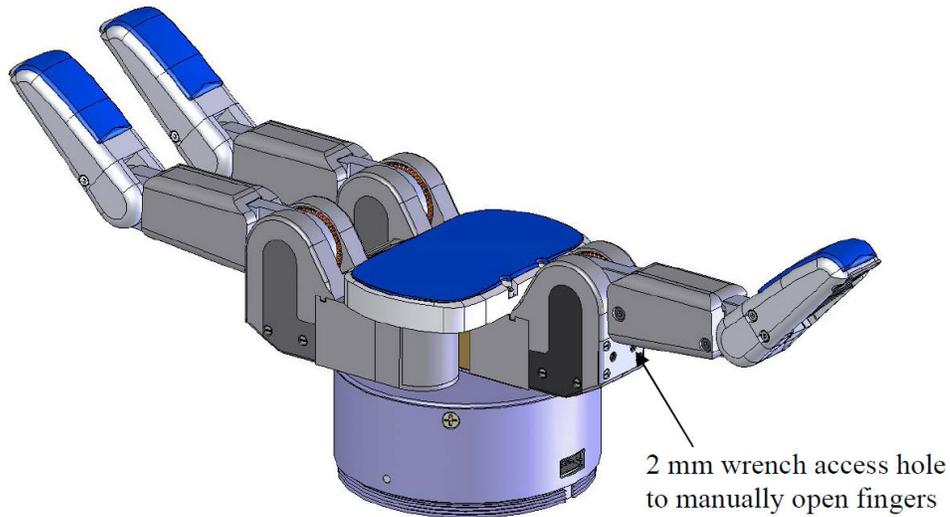

Figure 15: Prepare BarrettHand
Step 2: Open all fingers on the BarrettHand and open the Spread completely (fingers 1 and 2 opposite finger 3). The fingers can be opened manually using a 2 mm hex wrench in the right-hand hole shown. See Figure 15.